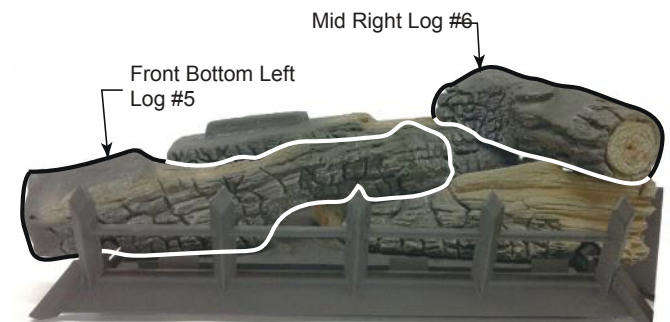

Figure 6.21 - Log #5 & #6 Placement
- Place mid right log (#6) on bottom rear log (#1) and front bottom right log (#4) by placing notch on bottom of log on locating block on log #1. Place front of log in notch of log #4. See Figure 6.21.